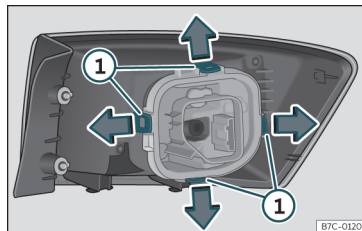

Fig. 92 Retaining tabs on reverse side of tail light.
7. Disassemble the bulb holder unlocking the securing tabs »» Fig. 92 ①.